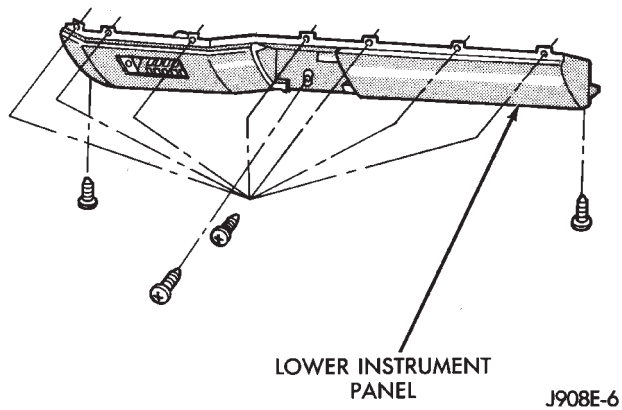

Fig. 6 Lower Instrument Panel Removal/Installation
- (2) Remove retaining screws and the lower instrument panel (Fig. 6).
- (3) Unplug wire harness connector.